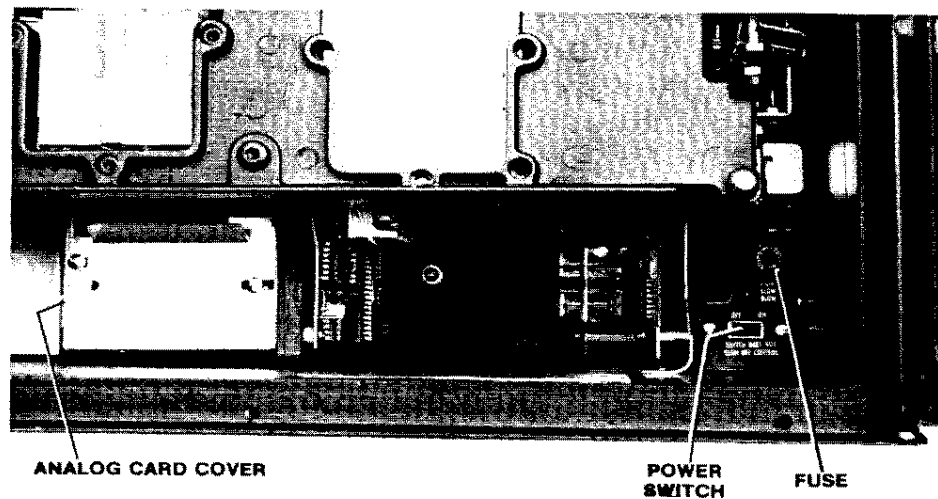

Fig. 8-5—Recorder, door open, chart drive swung open.
- Turn off the power, Fig. 8-5.
- Loosen the screw that secures the analog card cover, Fig. 8-5, and remove the cover.